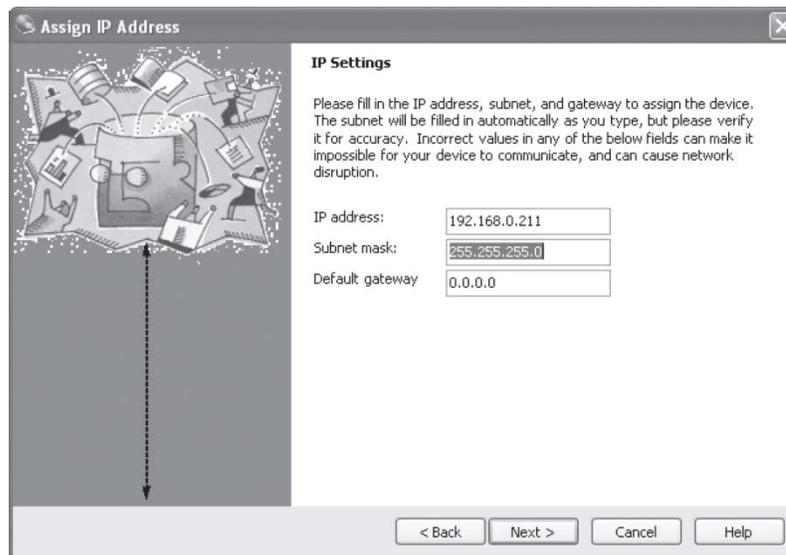

Figure 25: IP Settings screen
8. When the "IP Settings" screen appears, enter the IP address to be assigned, at which point the Subnet mask and Default gateway fields are filled in automatically, as displayed in figure 25, then select the **Next >** button.